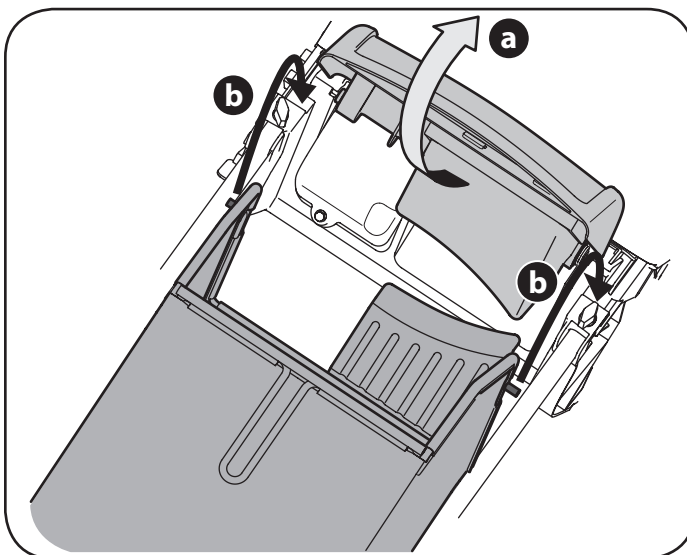

Figure 8
- b. Place grass catcher into the slots in the handle brackets as shown in Figure 8. Let go of discharge door so that it rests on the grass catcher.